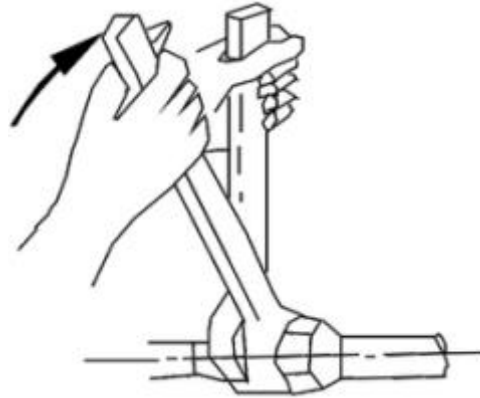

Figure 3
2. When connecting the water inlet and outlet pipes, use two pipe wrenches to adjust the two parts of the pipes, and make sure the water inlet and outlet pipes do not twist (see Figure 3).